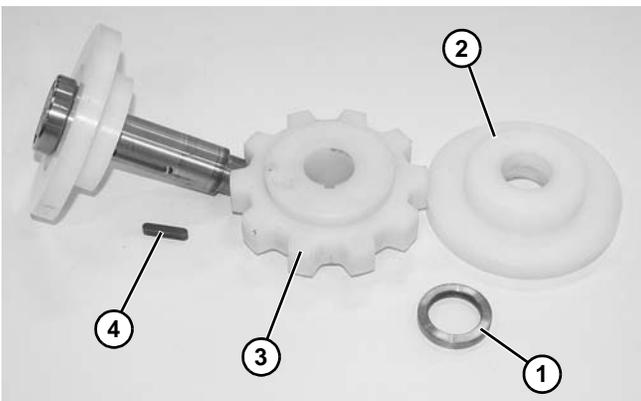

Figure 40
- Remove spacer (Figure 40, item 1), support wheel (Figure 40, item 2), sprocket (Figure 40, item 3), and shaft key (Figure 40, item 4) from idler shaft.